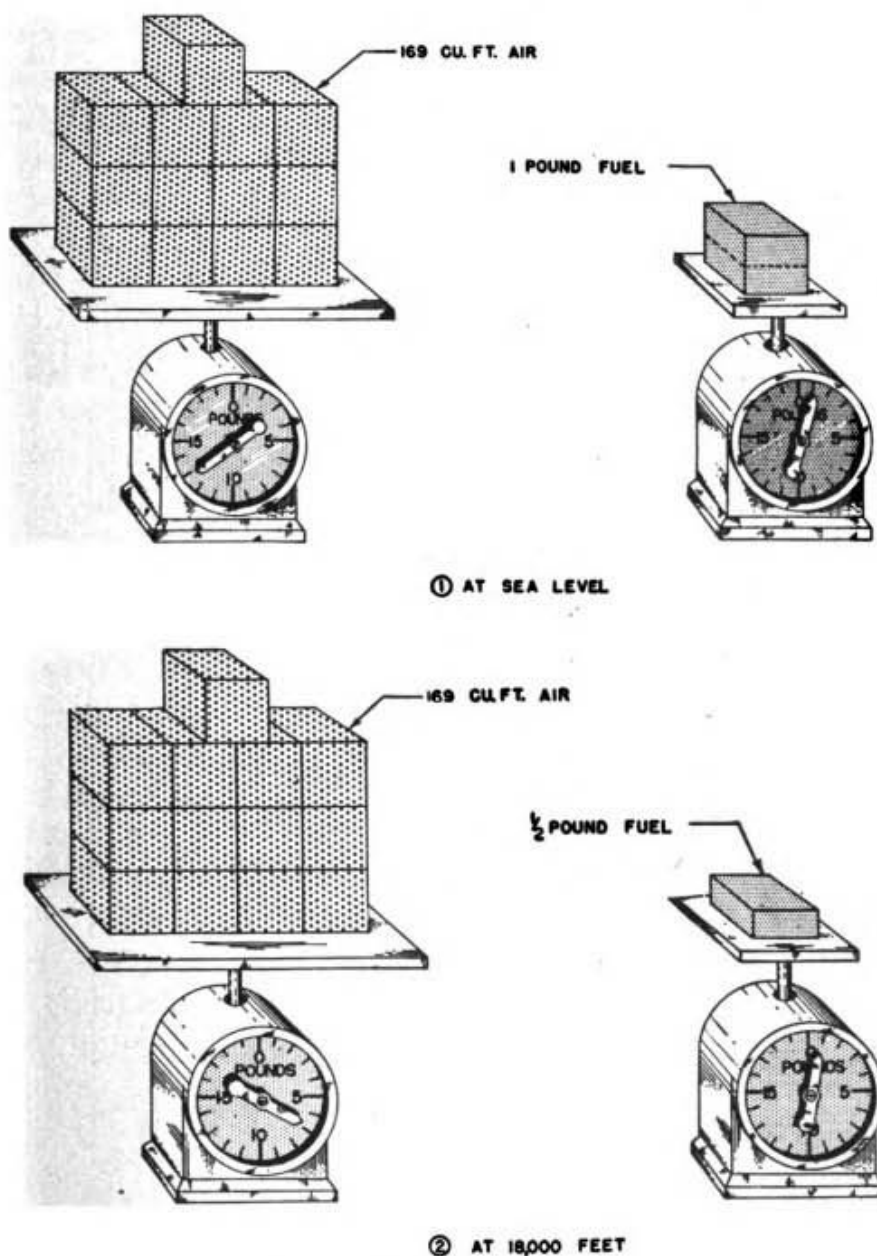

Figure 11. Fuel-air mixture.
(2) FUEL-AIR MIXTURE. The amount of fuel-air mixture used by an engine is expressed in terms of weight of fuel per brake horsepower. When excessive amounts of the charge are admitted, the engine is compressing into the combustion chamber more than it was designed to accommodate. Excessively high readings noted on the manifold pres-
sure gauge indicate this condition. It should be interpreted immediately to mean that structural stresses and strains are present in many parts of the engine as a result of the excessive pressure, and the throttle should be adjusted accordingly. Adjustable throttle stops may be installed with highly supercharged engines to warn the operator to limit the opening of the throttle below the critical altitude of the engine; but throttle stops are a poor substitute for a clear knowledge of the manifold pressure limits of the engine. Low manifold pressure also affects engine operation. At sea level 169 cubic feet of air will weigh 13 pounds. (See fig. 11①.) This is the amount required to burn completely 1 pound of fuel for maximum power. However, at 18,000 feet, 169 cubic feet of air weigh only 6.5 pounds, because the air is about one-half as dense. (See fig. 11②.) As altitude increases and density of air decreases, an over rich